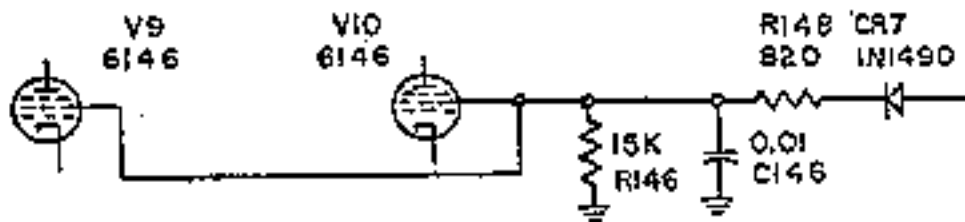

Figure 2. Partial Schematic Diagram Of PA Circuit Showing Addition Of IN1490 Diode CR7.
NOTE: A number of relay mounting brackets already have the hole A drilled to proper size and location. Check bracket (768-5928-001) with figure 2, and if hole A exists, disregard step 13.
13. Drill hole in relay mounting bracket (768-5928-001) according to the instructions on figure 2.